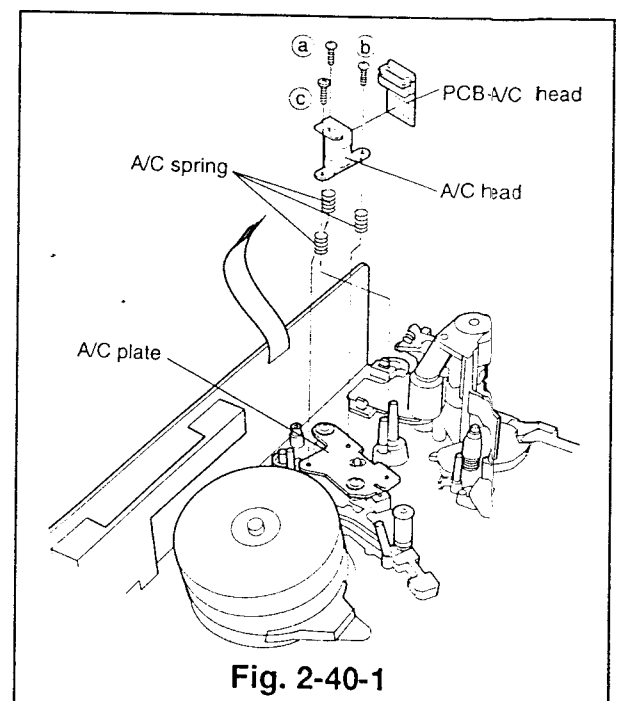

Fig. 2-40-1
- ① Disconnect the lead connector connected to the PCB-A/C-HEAD. (Refer to Item ① of Para. 2-39 for the removal method.)
- ② Remove the three screws(Ⓐ, Ⓑ and Ⓒ), shown in Fig. 2-40-1 to remove the A/C head.
- ③ Unsolder the PCB-A/C HEAD from the A/C head. (Refer to Fig. 2-40-1.
- ① Install the A/C head with the A/C spring and the three screws(Ⓐ, Ⓑ and Ⓒ) as shown in Fig. 2-40-1.